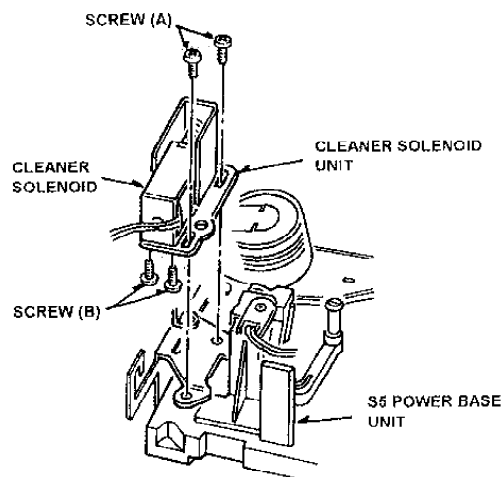

Fig.6-17-1 Removal of Cleaner Solenoid
4. Unscrew the 2 screws (A) and remove the Cleaner Solenoid Unit as shown in **Figure 6-17-1**.
5. Unscrew the 2 screws (B) and remove the Cleaner Solenoid as shown in **Figure 6-17-1**.